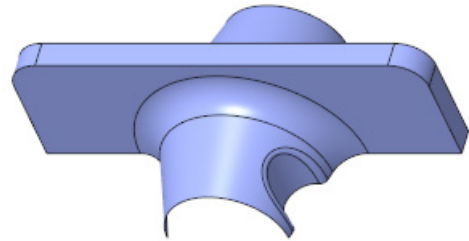

Figure 15-131 Resulting model after creating rounds on the selected edges
5. Choose the **OK** button from the **Round** dashboard to create rounds. The surface model after creating the rounds is shown in Figure 15-131.